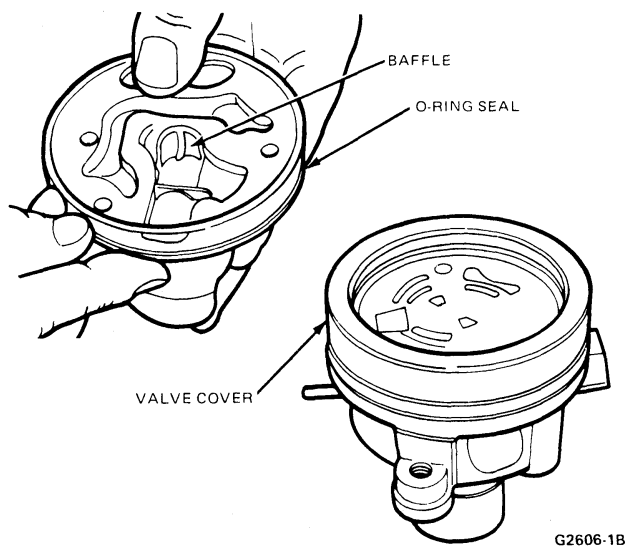

FIG. 25 Installing Valve Cover "O" Ring Seal
14. Place a new "O" ring seal on the valve cover. Lubricate this seal with the specified power steering fluid (Fig. 25).